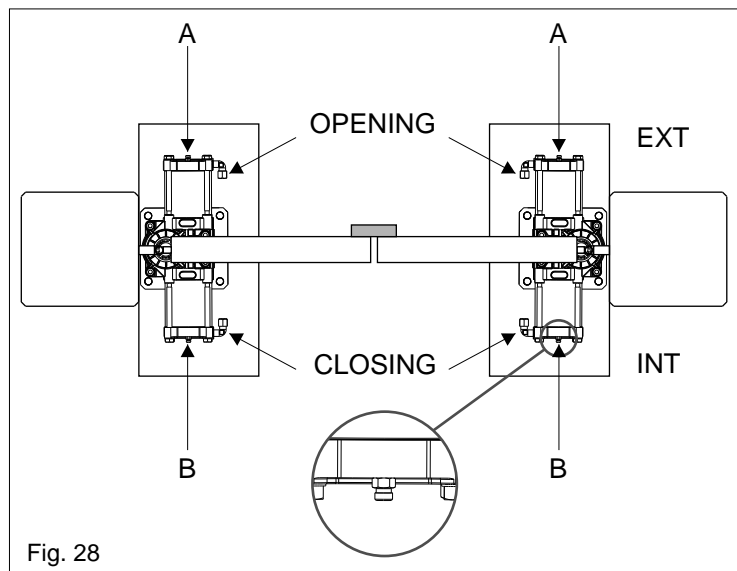

Fig. 28
- b) during opening of the gate, loosen the air bleed screw related to opening (Fig.28-rif.A);
- f) during closing of the gate, loosen the air bleed screw related to closing (Fig.28-rif.B);